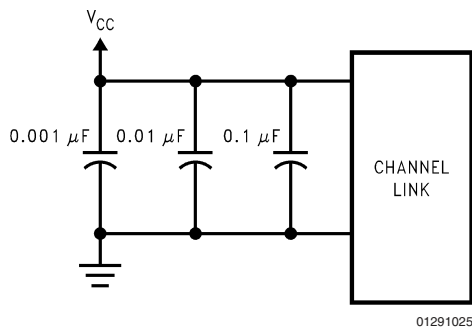

FIGURE 20. CHANNEL LINK Decoupling Configuration
**DECOUPLING CAPACITORS:** Bypassing capacitors are needed to reduce the impact of switching noise which could limit performance. For a conservative approach three parallel-connected decoupling capacitors (Multi-Layered Ceramic type in surface mount form factor) between each VCC and the ground plane(s) are recommended. The three capacitor values are 0.1 μF, 0.01μF and 0.001 μF. An example is shown in *Figure 20*. The designer should employ wide traces for power and ground and ensure each capacitor has its own via to the ground plane. If board space is limiting the